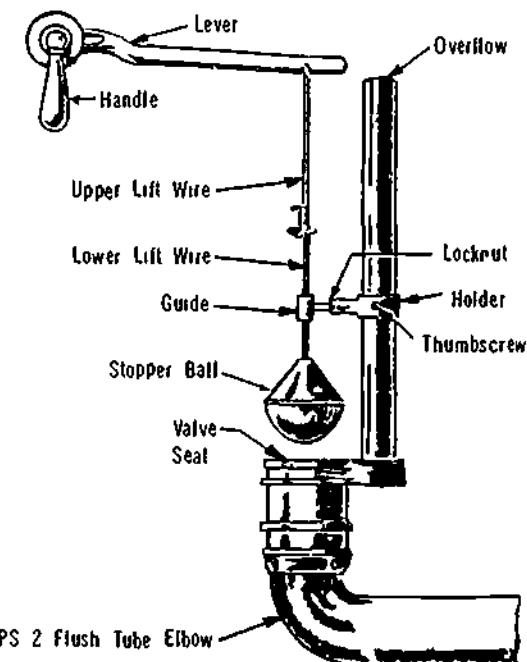
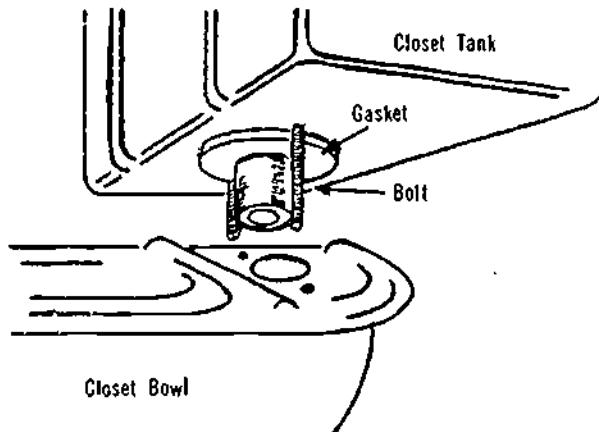

Figure 23-18. Flushing Mechanism
Figure 23-19. Close-Coupled Tank and Bowl
57. Figure 23-18 shows the flushing mechanism for the water-closet tank. Again, it is emphasized that all flush valves are not the same.
58. The flush elbow shown in Figure 23-18 is not required when a close-coupled tank and bowl are installed, as shown in Figure 23-19.
- a) Stop the inflow to the tank by holding up the float ball, then drain the tank by raising the rubber stopper ball. (See Figure 23-18.)